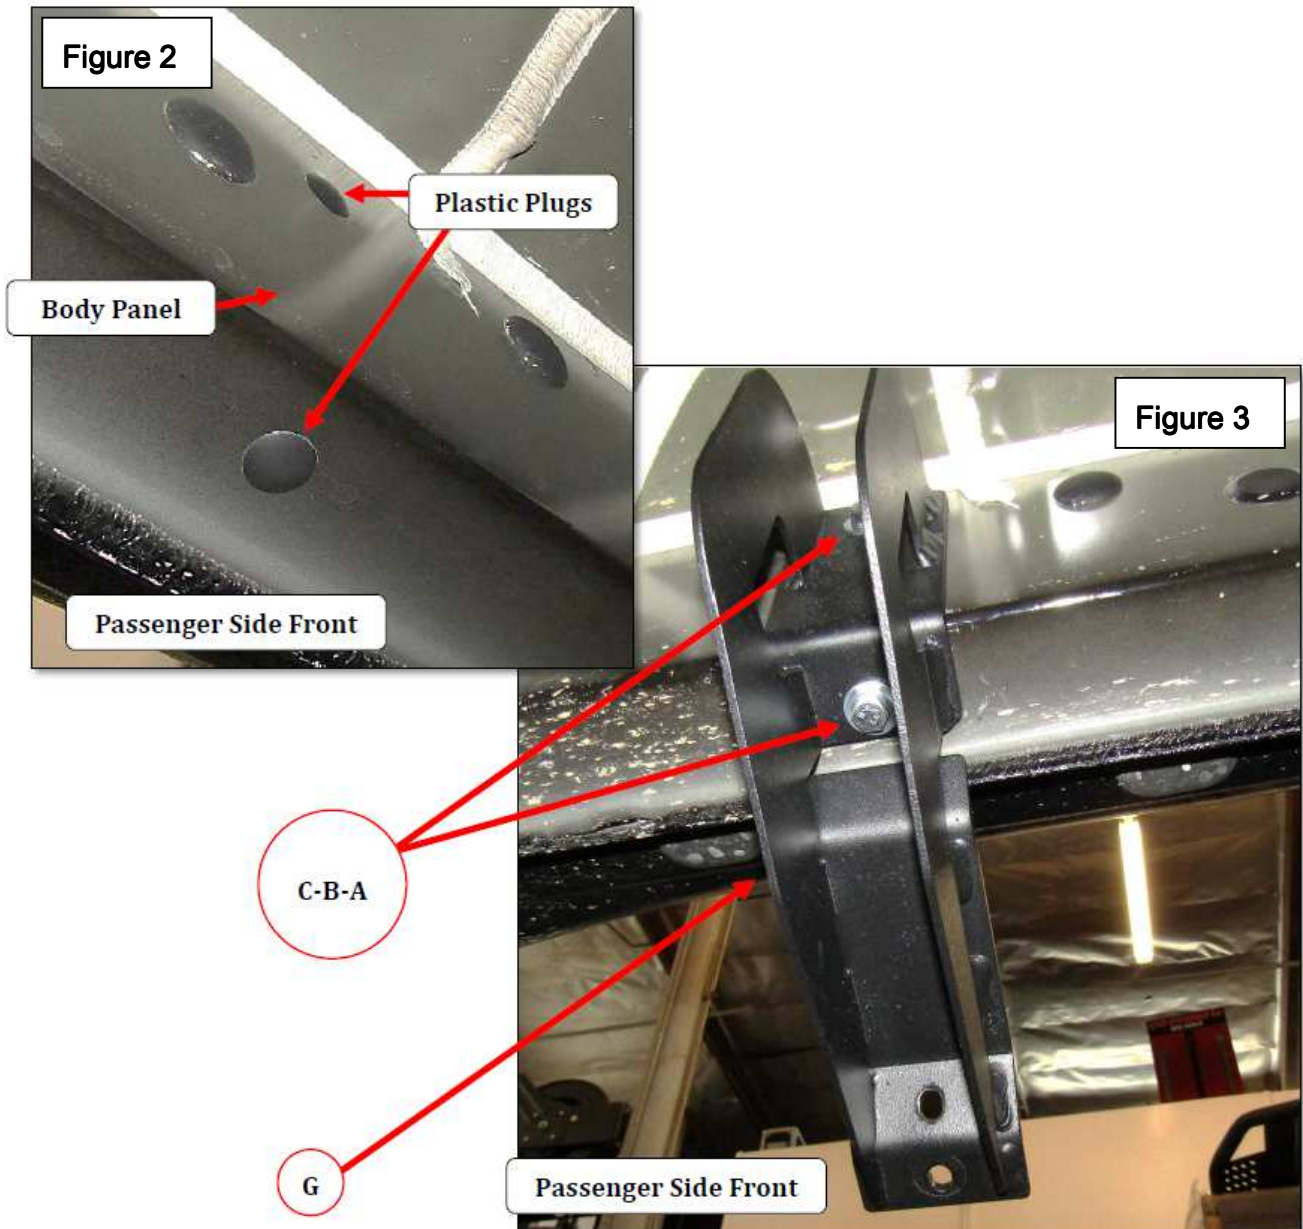

Figure 1
1. Starting on the passenger side, at the front of vehicle, locate and remove the plastic plugs covering the first set of holes in the body panel, (FIGURE 1 & 2). **Note:** Hold a mounting bracket up in place to help determine the mounting holes to use along the body panel.